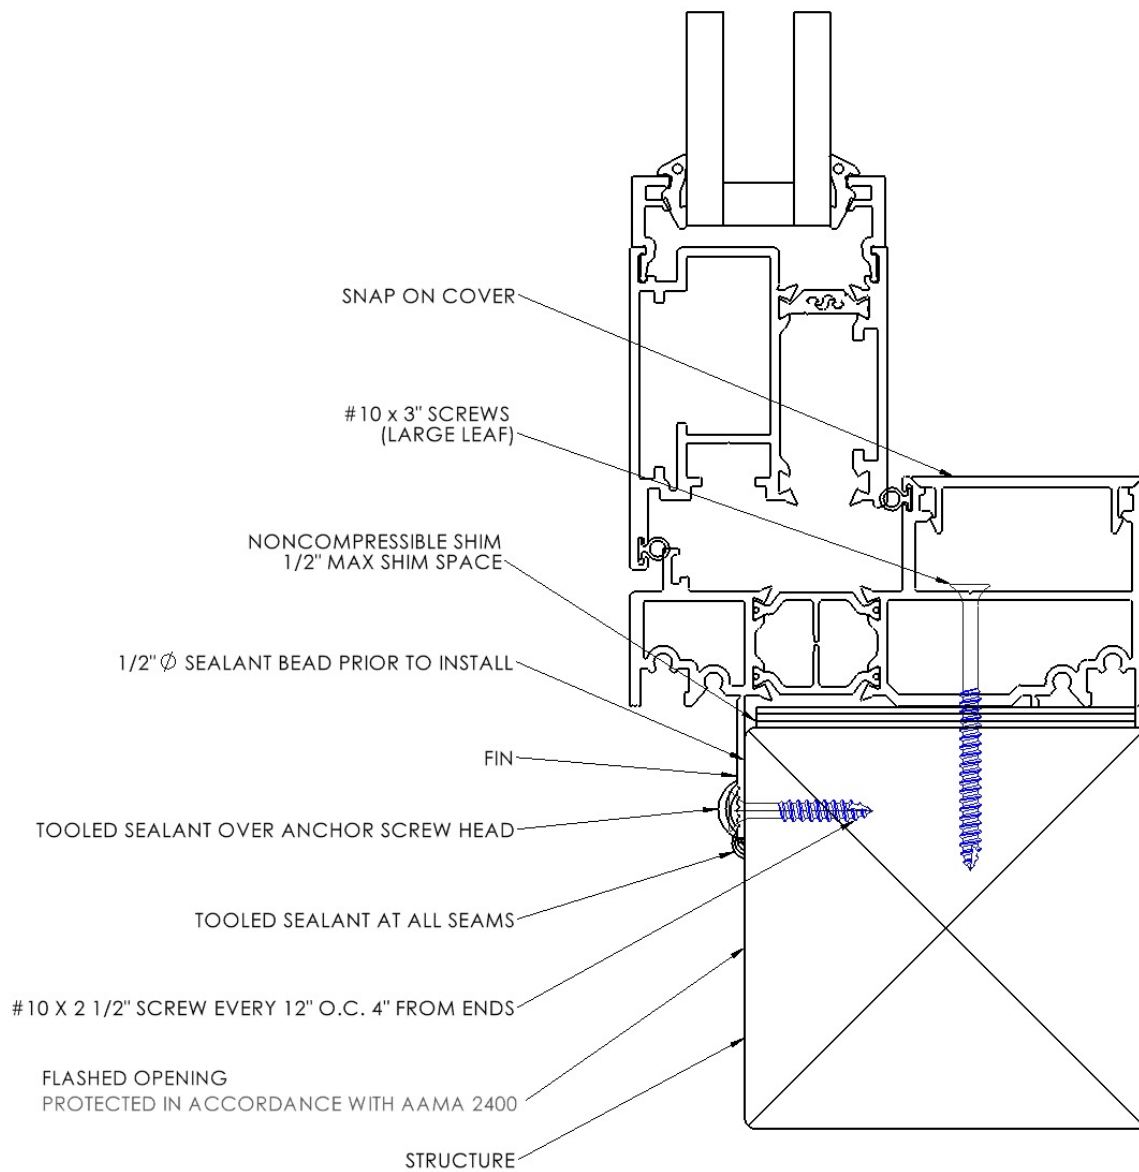

Figure 2
2. Apply a 3/8" continuous bead of sealant to the interior face of the nail-fin full perimeter. (See Figure 2).
added below the snap cover. (See Figure 2). For continuous hinged doors, the large leaf anchors shall be added every 24" on center, with a cluster of (2) two additional anchors spaced 4" and 8" from each end of the jamb. For doors that have individual hinges, a cluster of (3) three anchors shall be placed at each hinge, spaced 3" apart.